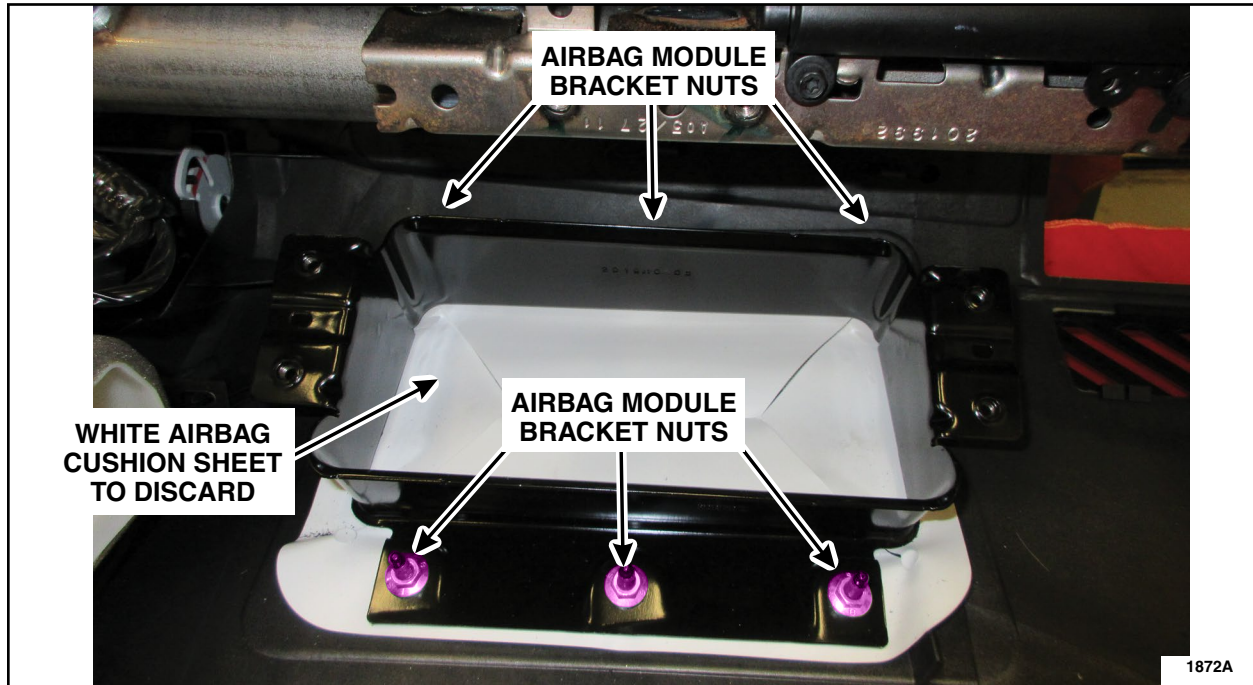

FIGURE 5
5. If a white airbag cushion sheet has been installed previously, remove the bracket from the instrument panel and discard the sheet. See Figure 5.
6. Reinstall the airbag module bracket onto the instrument panel. See Figure 5.